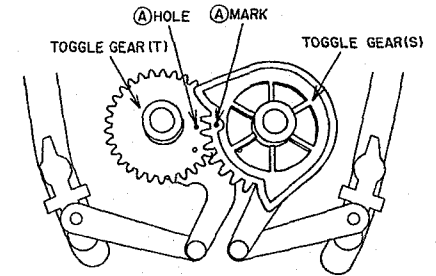

Fig. 3-8
- 1) Set the TOGGLE GEARS (T) and (S) to the unloaded position with your fingers. Align the (A) mark on TOGGLE GEAR (S) with the (A) hole of TOGGLE GEAR (T) as shown in Fig. 3-8.